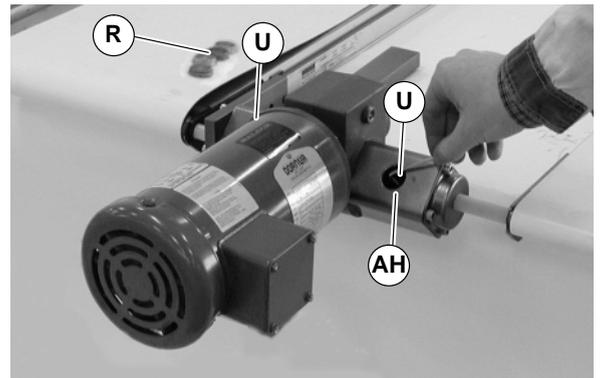

Figure 32
- Jog motor and rotate coupling to align set screws (U of Figure 32) with access hole (AH). Loosen set screws (U) on both sides of gearmotor assembly (F). Repeat for second set screws.